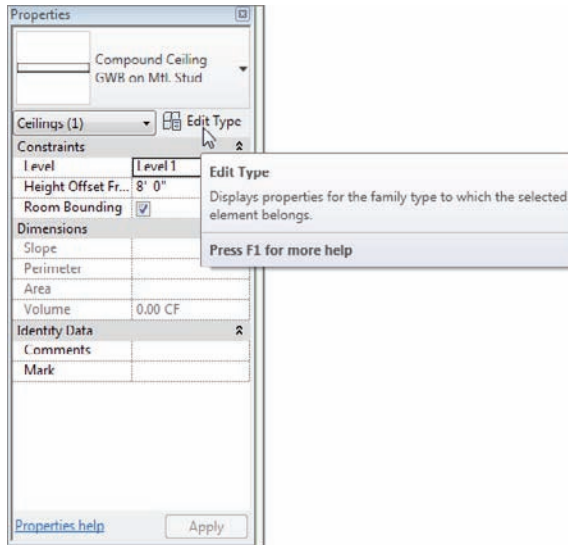

FIGURE 9.17 Clicking the Edit Type button after choosing the GWB On Mtl. Stud ceiling type
3. In the Type Selector, select **GWB On Mtl. Stud.** To the right and below the picture of the ceiling is the **Edit Type** button. Click it (see Figure 9.17).